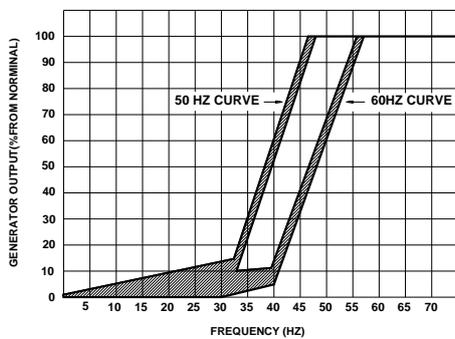

Figure 1 Frequency Compensation Curves
### FREQUENCY COMPENSATION (See Figure 1)
1. The frequency compensation characteristic of Figure 1 used to improve system load pickup performance by restraining voltage recovery until frequency has also started to recover.